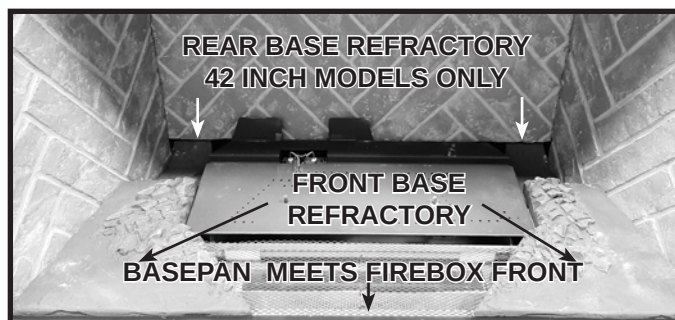
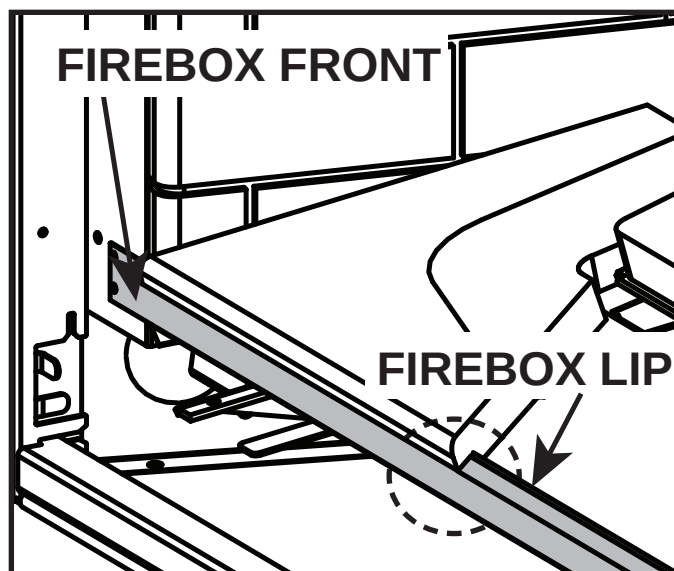

Figure 11.8 42 INCH Models Only:
Figure 11.9 Front Base Refractory Installed
8. Prior to placing base refractory, ensure the basepan is centered left to right and is positioned forward enough that it contacts the firebox front as noted in Figure 11.8. Place the two front base refractory pieces as shown in Figure 11.8. Ensure that the profile of the refractory fits over the firebox lip as shown in Figure 11.9.